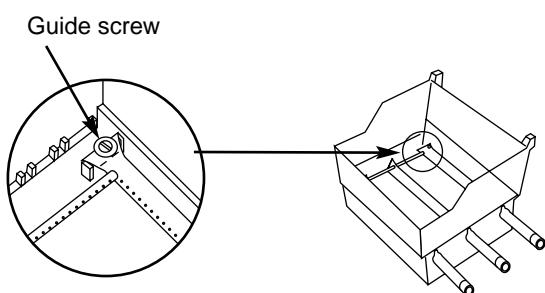

Figure 13
f) Slide the burner assembly out from under the guide screw and washer in the corners of the cooking box. Figure 13.